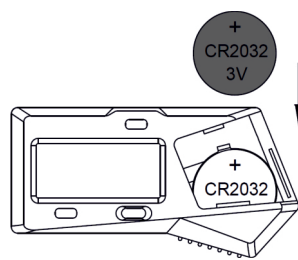

Fig. 2
- » Insert the CR2032 battery so that the positive side (+) faces outward (Fig. 2).